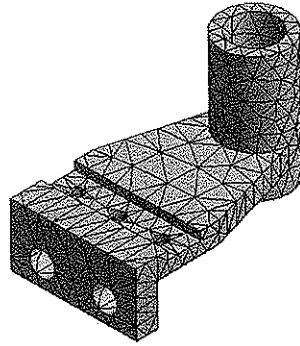

Figure 7-34 The mesh view of the model
After sometime, the **ANSYS Workbench Mesh Status** window is closed and the mesh view of the model is displayed in the Graphics screen, as shown in Figure 7-34.
6. Now, clear the **Slice Plane 1** check box in the **Section Planes** window to view the complete meshed view of the model, refer to Figure 7-34.
- 2. Orient the model using the tools available in the **Graphics** toolbar, refer to Figure 7-34.